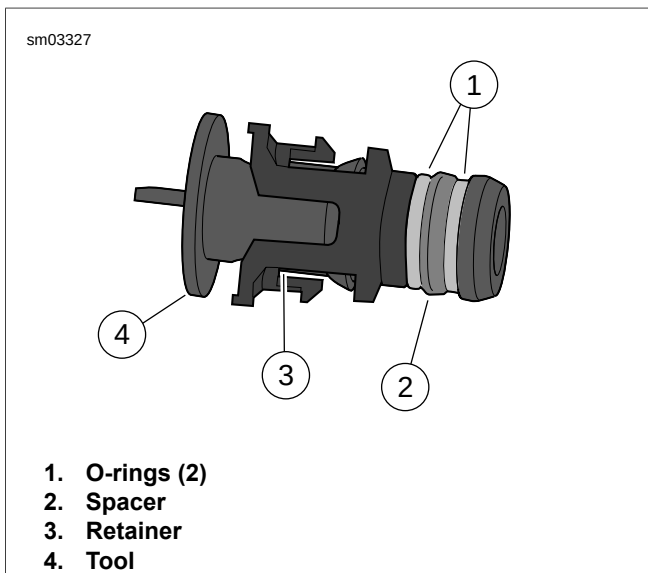

Figure 3-185. O-rings and Spacer
- See Figure 3-185. O-rings (1) and spacer (2) are not sold separately. If either O-rings or spacer are damaged, oil line retainer assembly must be replaced.
1. Insert OIL LINE REMOVING TOOL (Part No. HD-44455) (4) inside retainer (3).
3. Insert tool (4) through **new** retainer (3).